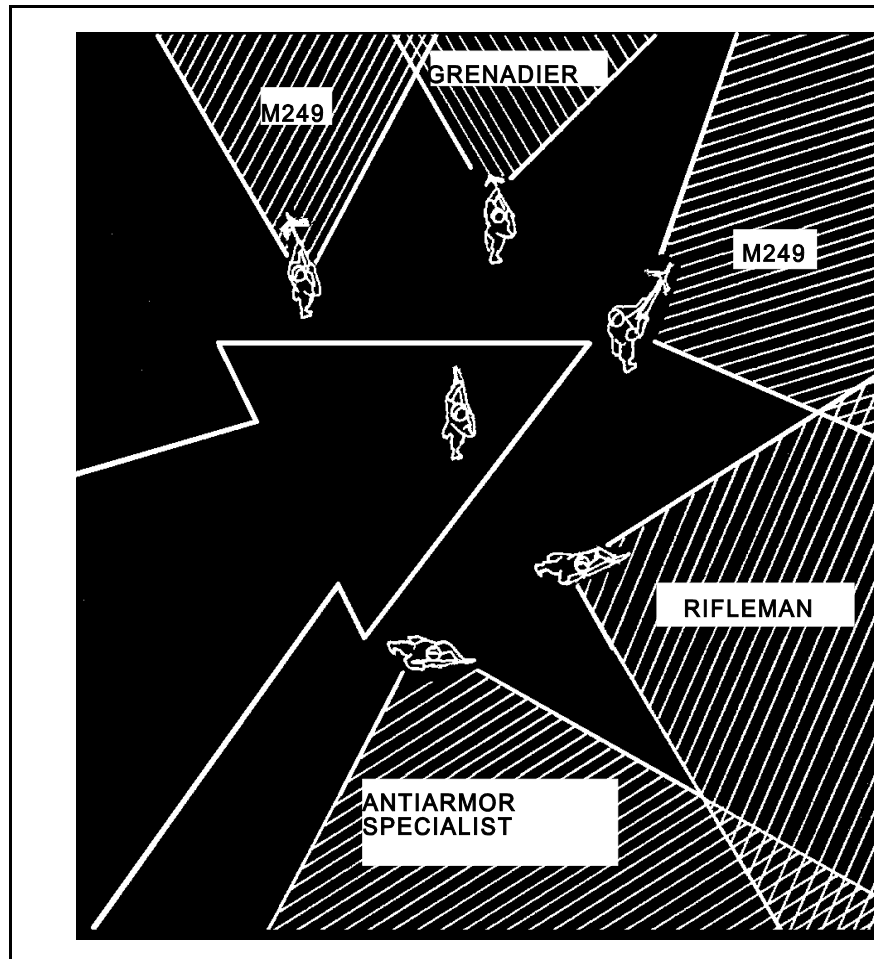

Figure 1. Normal interval.
- a. The normal interval in daylight is about 10 meters (Figure 1, page 3-64).